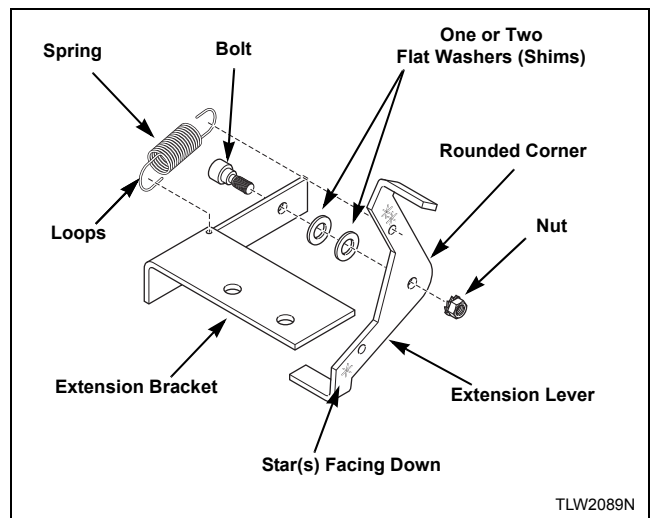

Figure 18
4. Install extension lever with rounded corner facing away from extension bracket using bolt, one or two flat washers (shims) (use number of washers included in kit) and nut. Refer to *Figure 18*. Make sure washers are flat against bracket.
6. Install extension spring in bracket hole and hole in upper arm of lever. Refer to *Figure 18*.